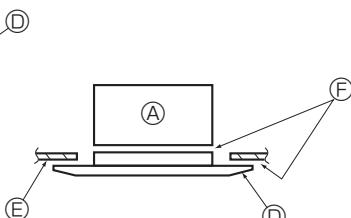

Fig. 6-8
- \* Make sure that there are no gaps between the main unit and the grille or the grille and the ceiling. (Fig. 6-8)